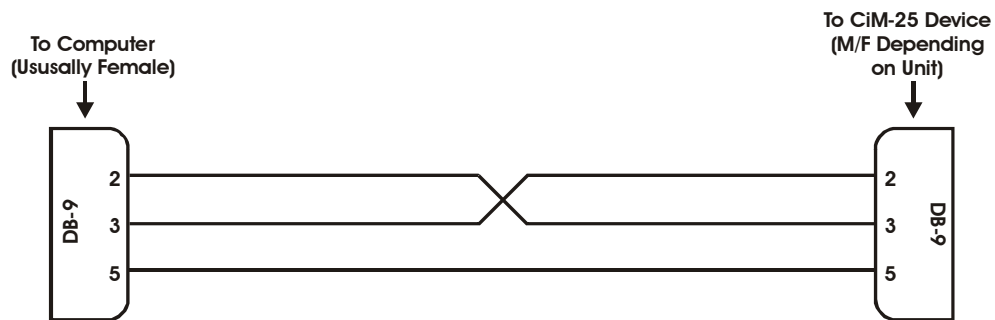

Figure 1. Null Cable Diagram
- 5 Connect the PC to the device to be reflashed. Refer to Figure 1, Null Cable Diagram.